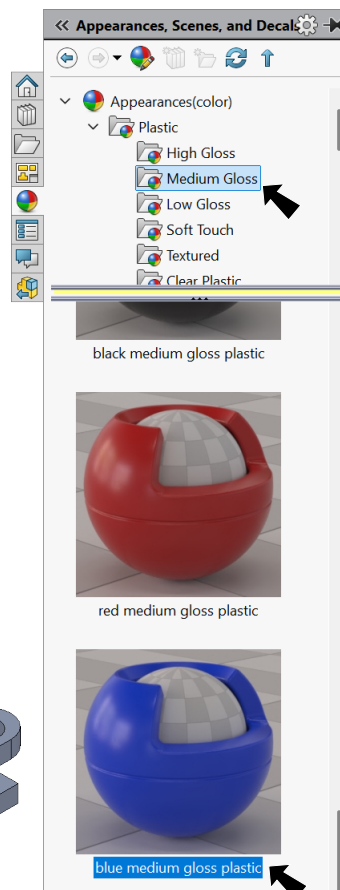

Fig. 103
Step 3. In the Appearances Task pane, expand **Plastic**, click **Medium Gloss** and in the lower pane select **blue medium gloss plastic**, Fig. 103.